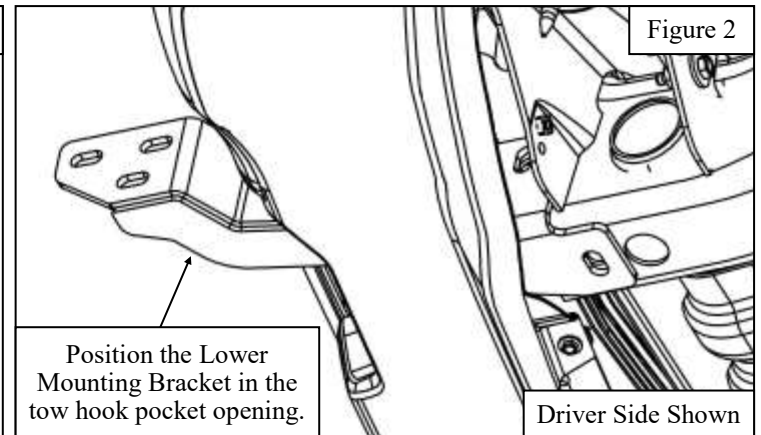

Figure 2
3. Slip the Lower Mounting Brackets (**Items 4-5**) through the tow hook pockets one side at a time. Position them as shown in **Figure 2**. **Note:** *Install the brackets on the outside of the frame.*